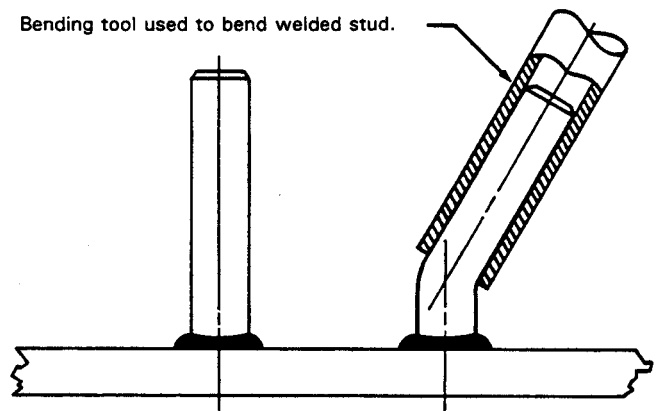

Figure 5
1. Bend Test -The stud to be tested shall be bent, using a bending tool as shown in Figure 5, approximately 15° away from its vertical axis before the stud breaks in the weld shank or the base material fails.